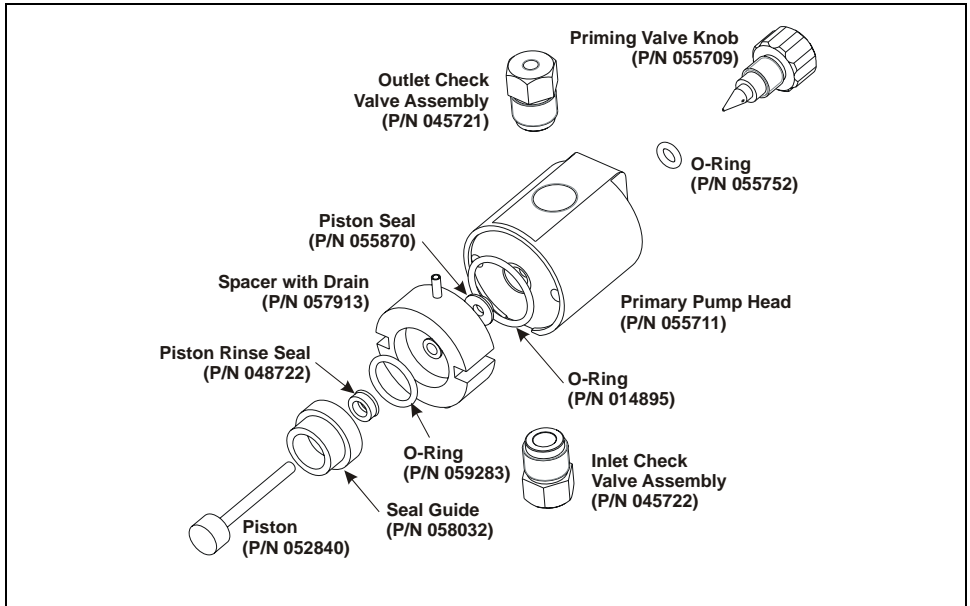

Figure 5-14. Primary Pump Head
- Place the head (front end down) on a clean work surface and lift off the spacer to expose the piston seal (see Figure 5-14 or Figure 5-15).